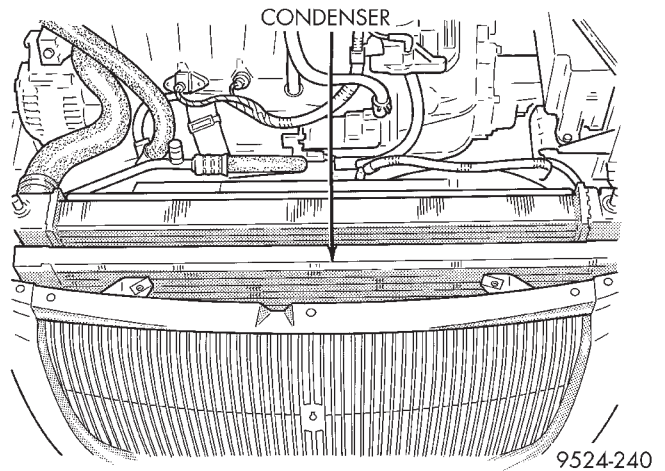

**Fig. 28 Condenser Removal**
- (9) Lift condenser from vehicle (Fig. 28).